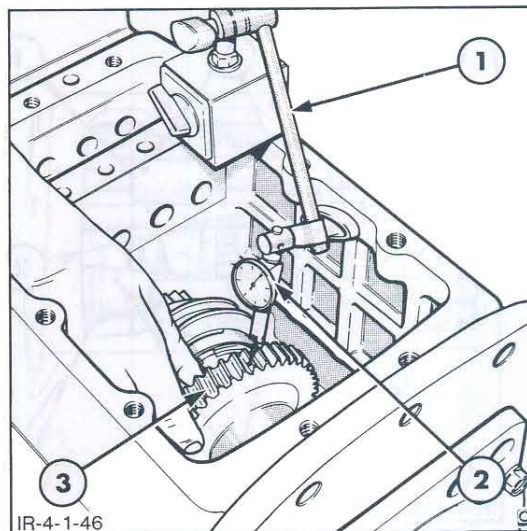

Figure 53
1. If transmission gear wear is suspected then prior to removing the rear cover and output shaft bearing retainer check the gear backlash. Position a dial indicator gauge on the transmission casing as shown in Figure 53 and measure the backlash on output shaft gears.